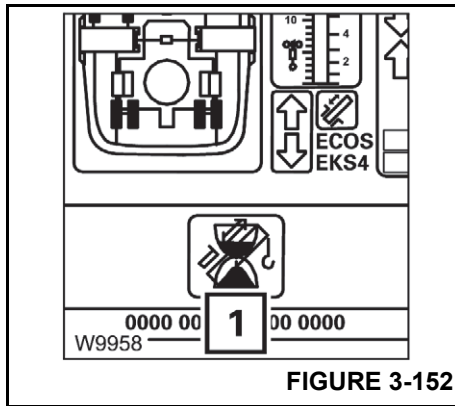

FIGURE 3-152
If an “error” display (1) (Figure 3-152) is pending, all operating elements are disabled, refer to *Telescope Mechanism Error Messages*, page 3-37